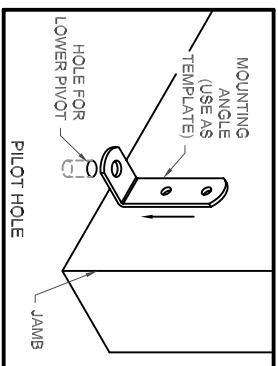

FIG. 1
1. PLACE MOUNTING ANGLE ON FLOOR AND MARK THE HOLE ON THE GROUND. DRILL A 5/8" HOLE 2" DEEP. (FIG. 1)